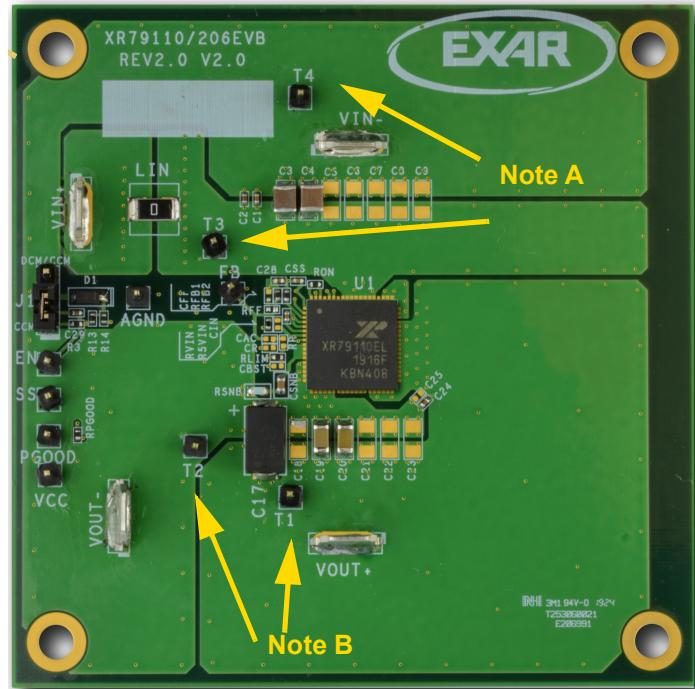

Figure 1: Monitoring V_{IN} and V_{OUT}
| Figure 1: Monitoring V _{IN} and V _{OUT} | 1 |
2. Connect a turned-off power supply that is within the V_{IN} specification (4.5V to 22V, 12V typical) to V_{IN+} and V_{IN-} with short / thick leads. Use test pins T3 and T4 to monitor V_{IN+} and V_{IN-} respectively. See locations in Figure 1 Note A.
3. Initially set to 0A, connect an electronic load that will be no more than the maximum I_{OUT} (10A) to V_{OUT+} and V_{OUT-} with short / thick leads. Use test pins T1 and T2 to monitor V_{OUT+} and V_{OUT-} respectively. See locations in Figure 1 Note B.